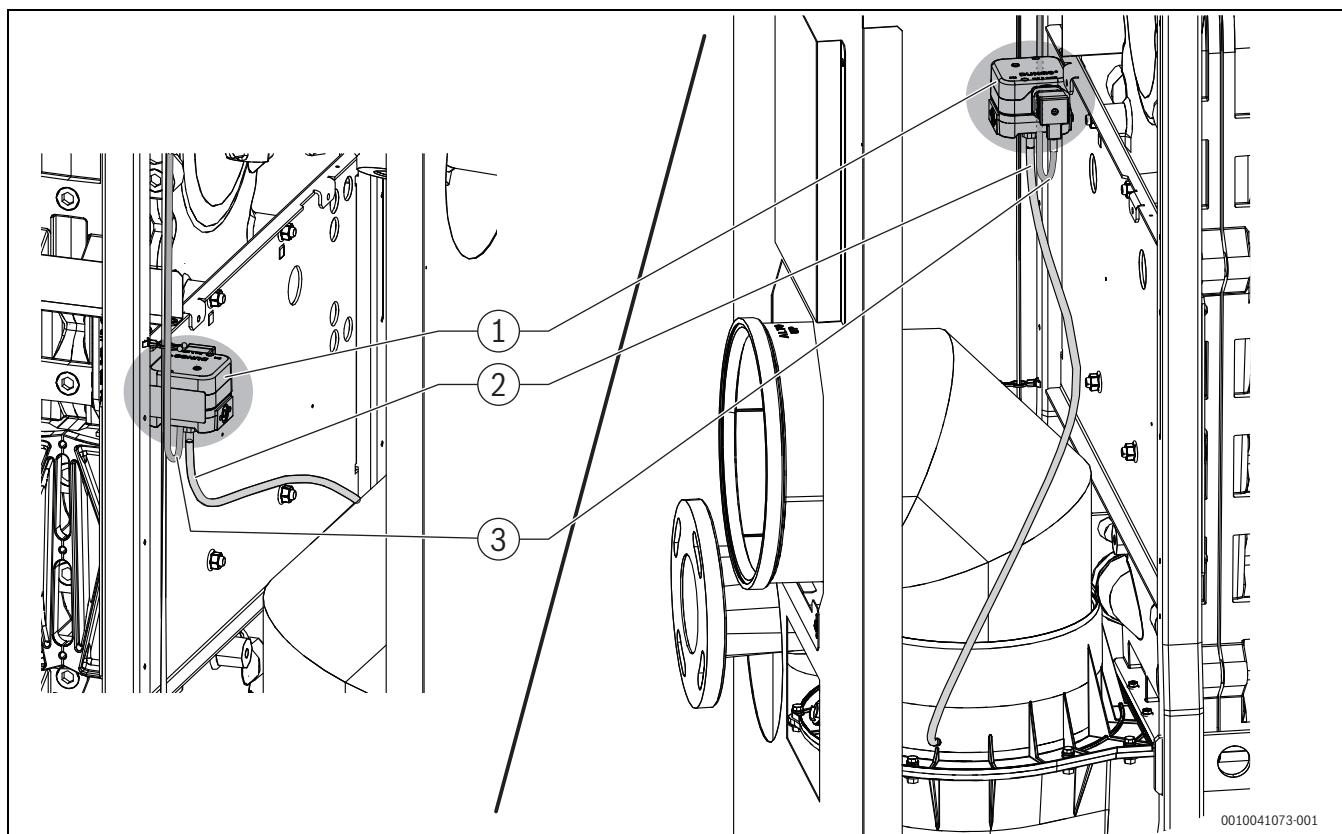

Fig. 80 Pressure monitor position; view from the right and left side
- ▶ When replacing parts in case of a repair, observe the correct allocation of the test cables according to Fig. 80 and 81!